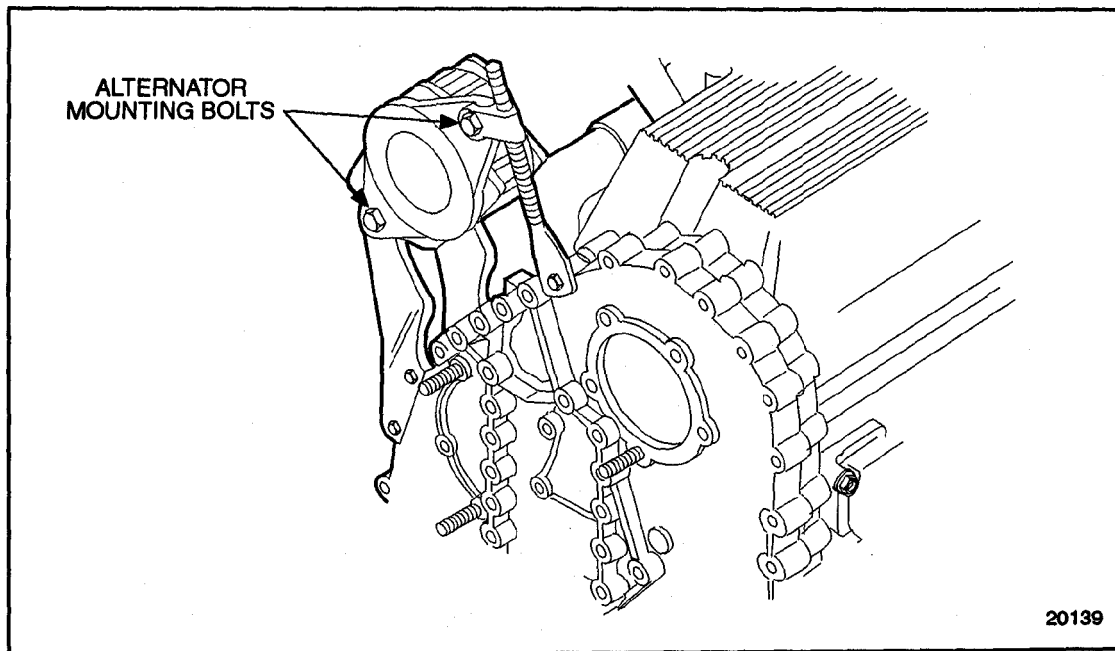

Figure 1-159 Alternator and Related Parts
3. Loosen the alternator mounting bolts. Remove the alternator drive belts, alternator, and mounting brackets (if so equipped). Refer to section 8.2.2. See Figure 1-159.